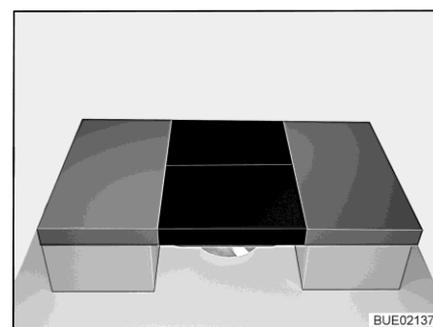

Fig. 173 After conversion
- Place two additional cushions on the table (see Fig. 173).